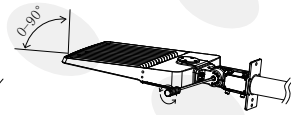

Figure 3-2-4
Step4: If the installation angle of the fixture needs to be adjusted, loosen the screws of the bracket and fix them again after finished adjustment, Figure 3-2-4;